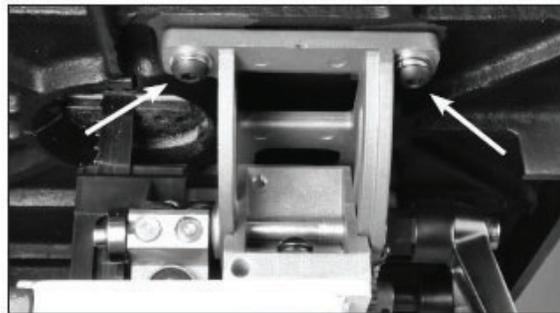
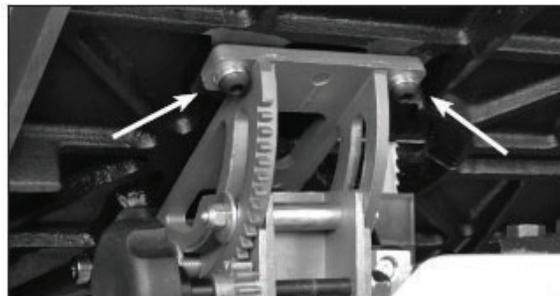

FIGURE 2
FIGURE 3
3. Attach the table to the trunnion with the four Hex Socket Cap Screws, Spring Washers and Washers. Install two bolts to the right of the blade, hand tightened only. **Fig. 2.** Then tip the table to 45 degrees and install the two bolts to the left of the blade. **Fig. 3.** **DO NOT** fully tighten the bolts at this time. Return the table to the horizontal position.